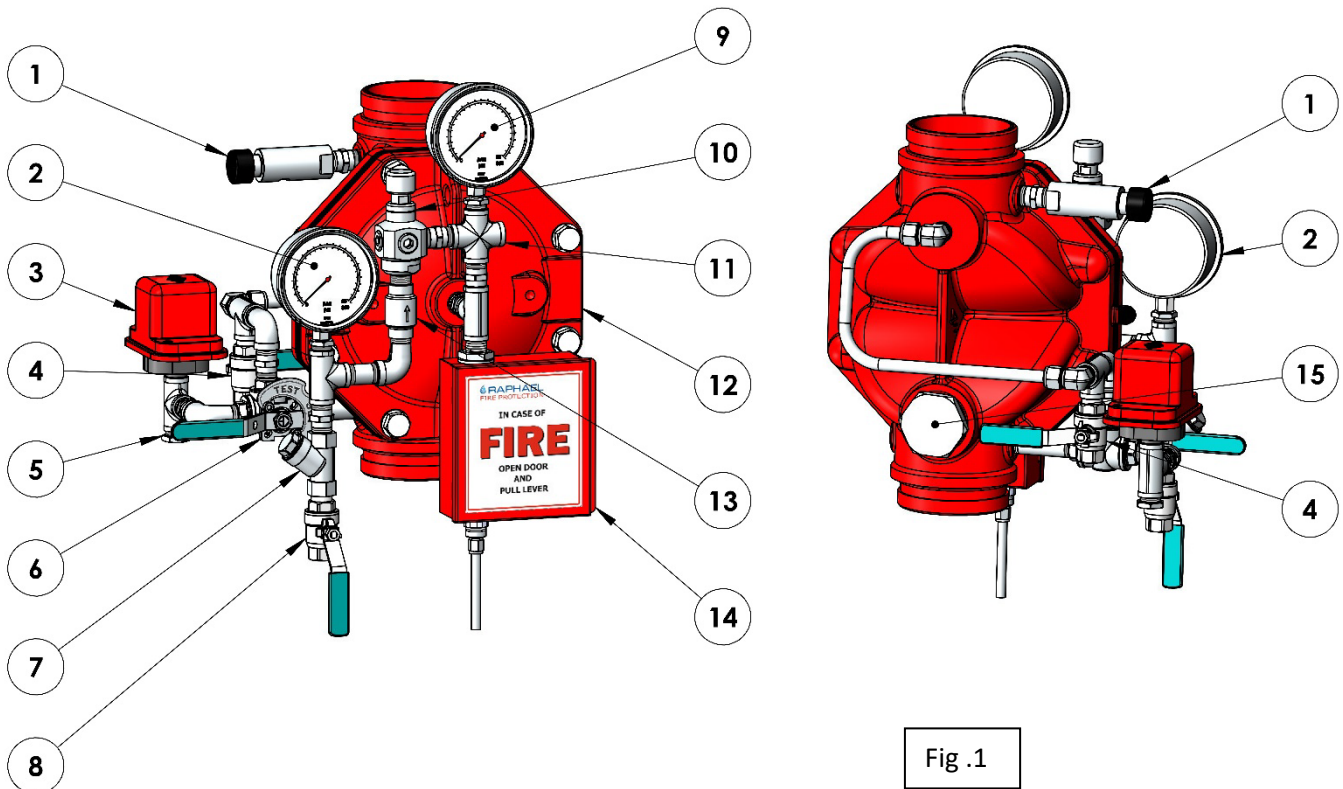

Fig .1
## Operation (Reference Figure 1)
- (1) – Trim pressure supply connection - ½" NPT female.
- (4) – Alarm gong to alarm test valve - ½" NPT female.
- (11 Fig 1) – wet pilot line connection – ½" NPT female (temporary plugged).